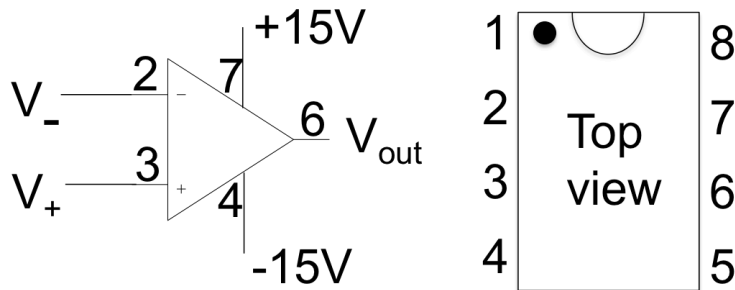
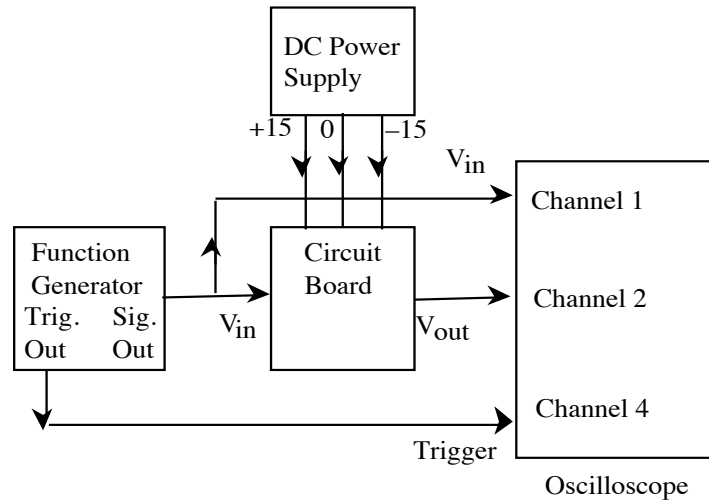

Figure 4. LF356 pin-out and schematic.
Figure 5. Test and measurement setup for op-amp circuits.
- This experiment will use both $+15V$ and $-15V$ to power the LF356 op-amp. Turn off the power while wiring your op-amp. Everyone makes mistakes in wiring-up circuits. Thus, it's a good idea to check your circuit before applying power. Fig. 4 shows a pin-out for the LF356 chip. Familiarize yourself with the layout.
- Figure 4 below shows the basic layout to test your op-amp circuits. The test circuit from the previous lab (Lab 4 Fig. 5) (voltage follower with input grounded) provides a quick way to check if your op-amp is broken.